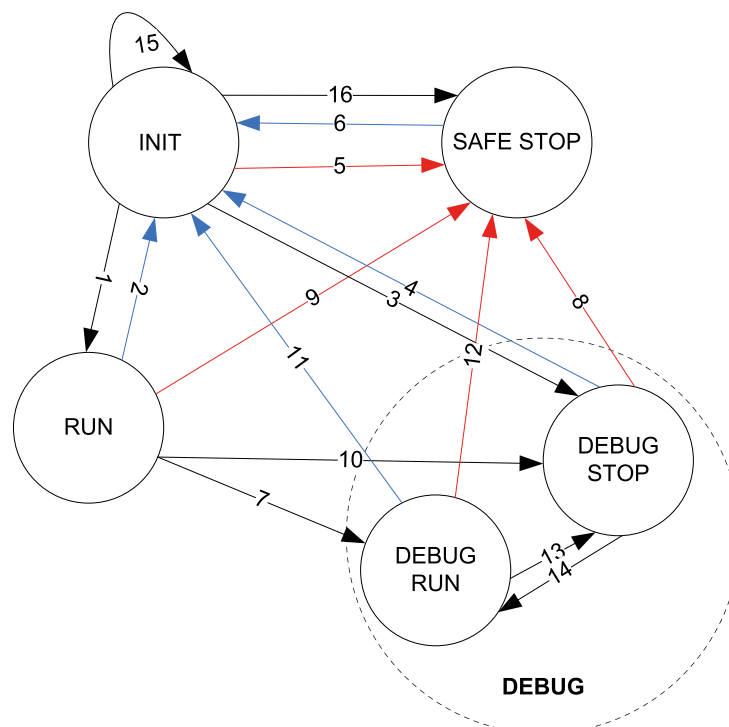

Fig. 12: Safety CPU module states and transitions
Fig. 12 provides an overview on possible Safety CPU states and transitions between them.
The Safety CPU module states defined in Fig. 12 are further explained in Chapter 3.1.5.1 “Description of Safety CPU module states” on page 58 and Chapter 3.1.5.2 “Transitions between Safety CPU states ” on page 61.
In case of CODESYS online commands "Step in", "Step over", "Single cycle" and when the breakpoint is reached, there is a switch between DEBUG RUN and DEBUG STOP states (↪ Fig. 12 transitions 13 and 14).
(14)	DEBUG STOP	DEBUG RUN	<ul style="list-style-type: none">■ CODESYS Safety online services “Step over”, “Step in” and “Run”■ CODESYS Non-Safety online service “Run”■ “Run” button on PM5xx Non-safety CPU (Non-safety CPU was in “Stop” state)
(15)	INIT	INIT	Powering off/on or “reboot” PLC Browser command from PM5xx Non-safety CPU
(16)	INIT	SAFE STOP	Switch address 0xFE, 0xFD or 0xFC was set on the Safety CPU
* Numbers are transitions in  Fig. 12